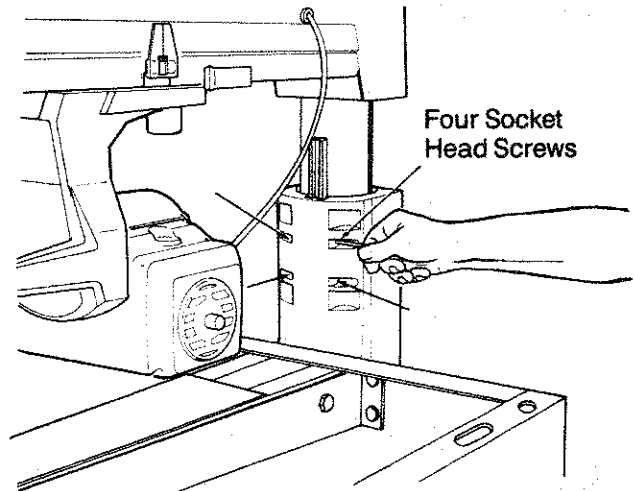

Fig. 35
1. Use a $3/16$ " hex "L" wrench to loosen the four screws in the front of the *column support*. (Figure 35)